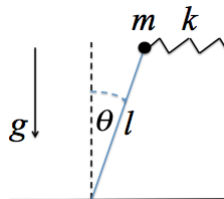

Figure P1.76 A simple pendulum connected to a spring
- 1.76** Consider the pendulum and spring system of Figure P1.76. Here the mass of the pendulum rod is negligible. Derive the equation of motion using the energy method. Then linearize the system for small angles and determine the natural frequency. The length of the pendulum is l , the tip mass is m , and the spring stiffness is k .